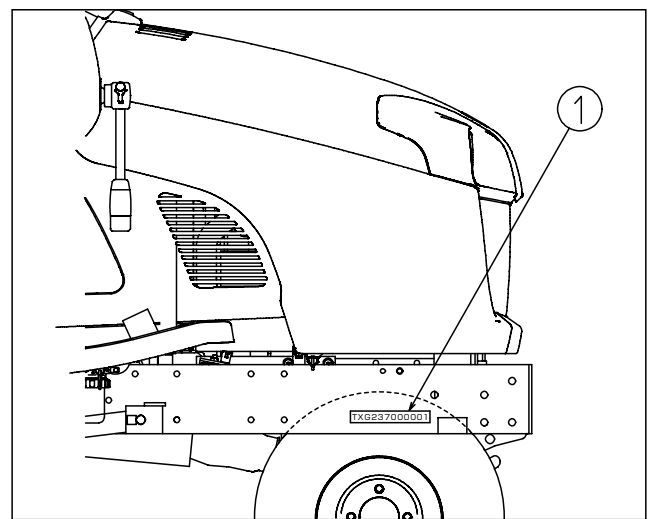

FIG. 2-5
- NUMERO DE CHASSIS (Fig. 2-5 (1))